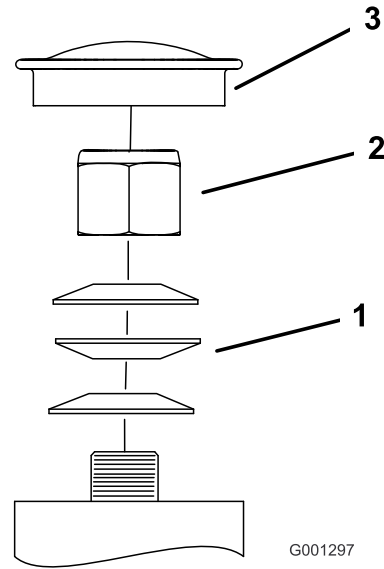

Figure 63
- 3. Remove the dust cap from the caster and tighten the locknut (Figure 63).
- 4. Tighten the locknut until the spring washers are flat and then back off a 1/4 turn to properly set the pre-load on the bearings (Figure 63).
Important: Make sure that the spring washers are installed correctly as shown in Figure 63.
- 5. Install the dust cap (Figure 63).